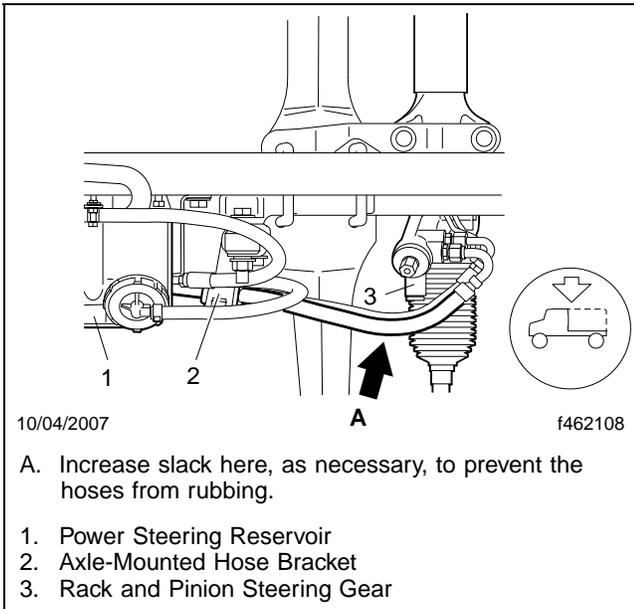
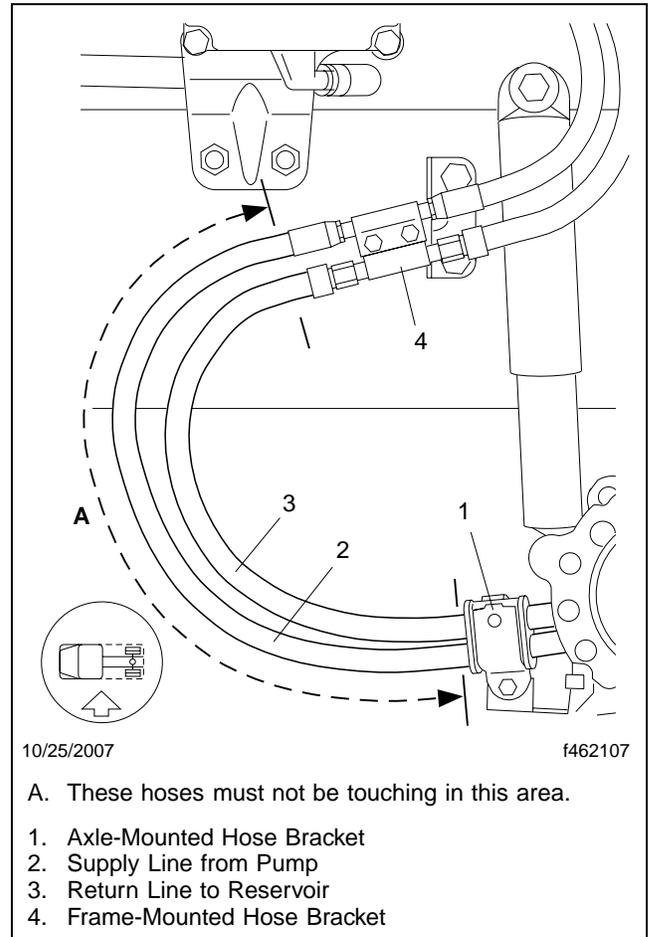

Fig. 8, View from Above
Fig. 9, Side View (fuel/water separator installed forward)
34. Include a little slack in the return line between the steering rack and the axle-mounted hose bracket (**Fig. 8**), to keep the hoses between the axle-mounted hose bracket and the frame bracket (**Fig. 9**) from rubbing together.